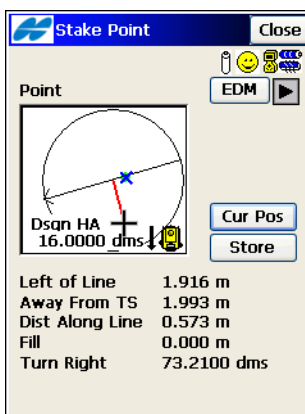

Figure 9-17. Stakeout Line
- For TS: sight the prism. On the **Stake Point** screen, tap the **Cur Pos** button to check the position (Figure 9-17). Tap the **EDM** button to select distance measurement mode, either *Coarse*, *Fine* or *Coarse Tracking*. Once the position is close enough to the line and at the desired distance from the starting point, tap **Meas** to store it.